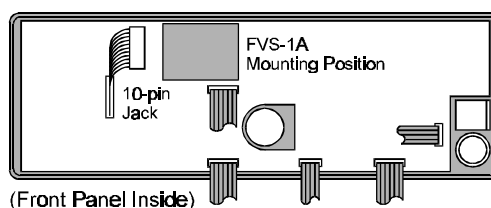

Figure 5
- ③ Inside the front panel, locate the unconnected 10-pin jack, and connect the **FVS-1A** here (see Figure 5).
- ④ Set the **JA**panese/**EN**glish switch on the **FVS-1A** to the desired position, and then affix the **FVS-1A** board into place using the double-sided adhesive tape on the flat surface of the **FVS-1A** IC.
- ⑤ Fold the front panel back into place, and replace the covers and carrying handle.